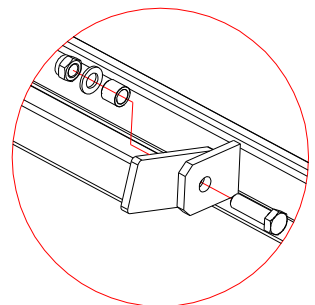

Figure 6.1
6. Mount a towing hook (4) on the machine by means of the supplied bolts, nuts and bushes (Figure 6.1).
7. Subsequently, mount the spindle (5) on the towing hook with the supplied pin and locking pin.
8. Place the receptacle (6) at the back of the machine.